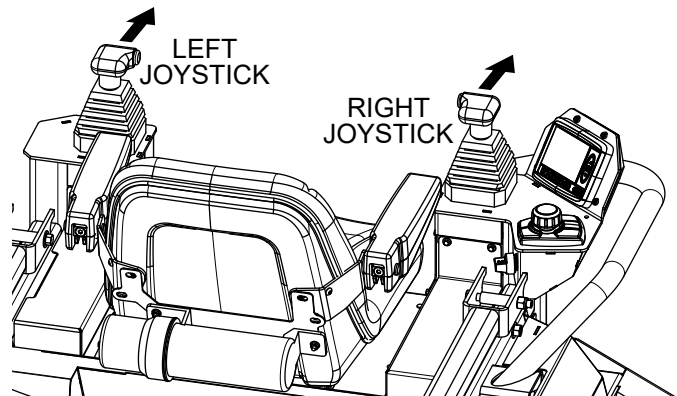

Figure 46. Joysticks (Forward)
- Push both the left and right joysticks forward (Figure 46).